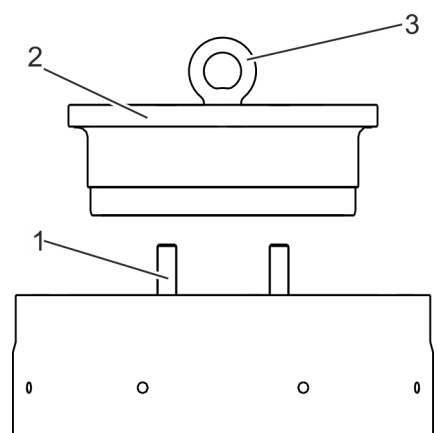

Fig. 13: Screwing the ring bolts into the clamping lid
- 24.** If removed: Screw the ring bolts (Fig. 13/3) into the clamping lid (Fig. 13/2).
- 25.** Attach the ring bolts (Fig. 13/3) to the hoist.
- 26.** Lift the clamping lid (Fig. 13/2) over the body and lower the cover with the bores on the stud bolts (Fig. 13/1).